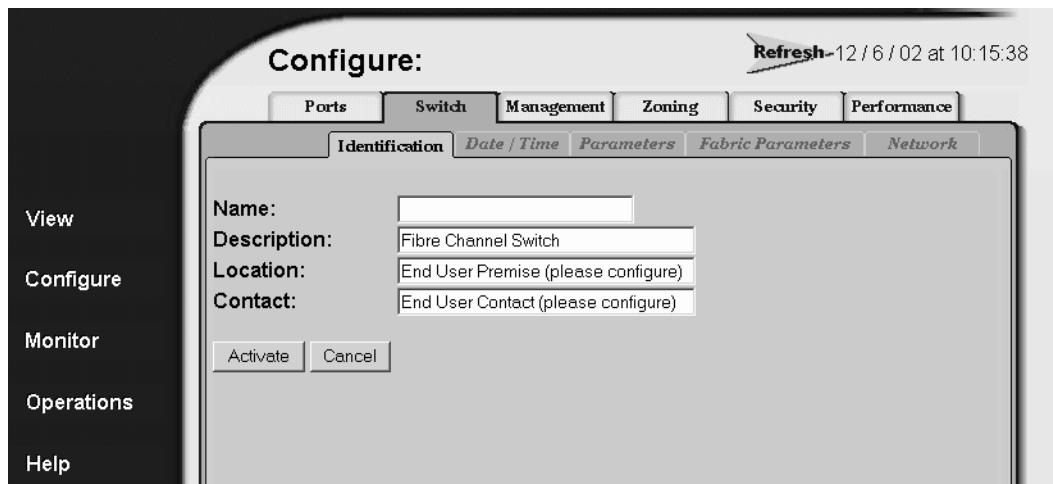

Figure 15: Switch page—Identification tab
1. Choose **Configure > Switch**. The Switch page displays with **Identification** tab selected (Figure 15).